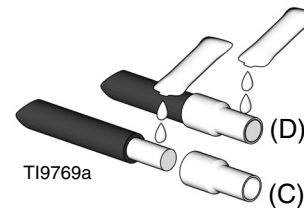

FIG. 3: Remove and Reinstall Ferrule
- c. Remove ferrule (4) and apply oxide inhibitor (6) to bare wire. See FIG. 3.
- d. Insert wire in ferrule (4) and apply more oxide inhibitor (6) to ferrule and wire end. See FIG. 3.